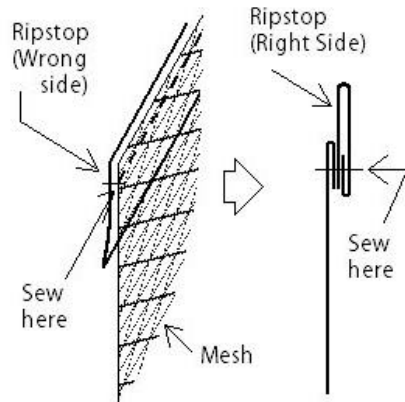

Figure 15. Top of pocket.
- 5.2.1 Sew one of the ripstop edge pieces onto the top edge of the mesh pocket, right sides together. See *Figure 15*.
- 5.2.2 Fold to inside, line up ripstop edges, and stitch down, sewing over the seam you made in the last step. See *Figure 15*.
- 6.2 Attach ripstop pocket edging to top of pocket in same manner as for front pocket, as shown in Figure 15. Thread the 16" pieces of shock cord, sew one end and knot. Trim any excess (not too close to knot) and sear with flame.